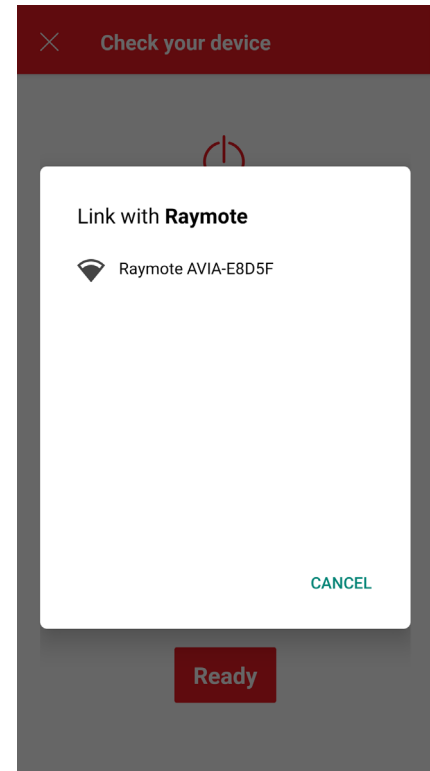

Figure 83. Link with Raymote
- 2. Depending on your configuration, one or more devices will appear on the app. See **Figure 83**. Select the HOTSPOT identifier that matches the unit's display as shown in **Figure 83**.